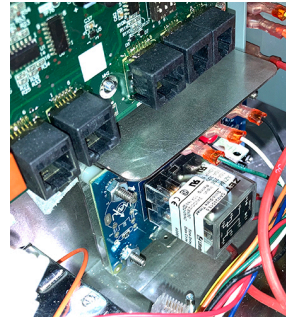

Figure 20
21. Ensure the bracket is under the lower connections of the SIB board (see Figure 20).